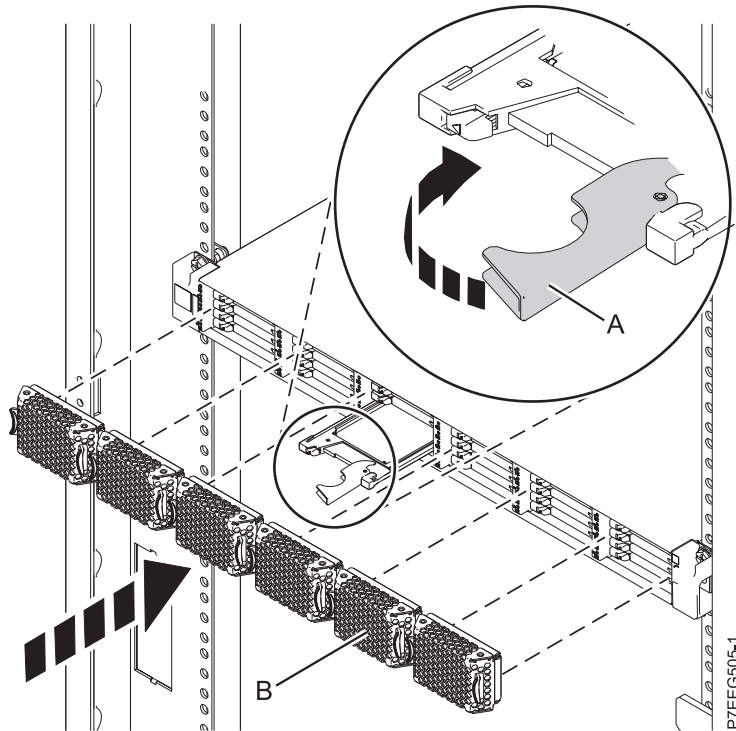

Figure 8. Installing a solid-state drive in the 5888 PCIe storage enclosure
1. With the handle in the unlocked position, align the solid-state drive with the guide rails in the enclosure. See Figure 8 on page 17.